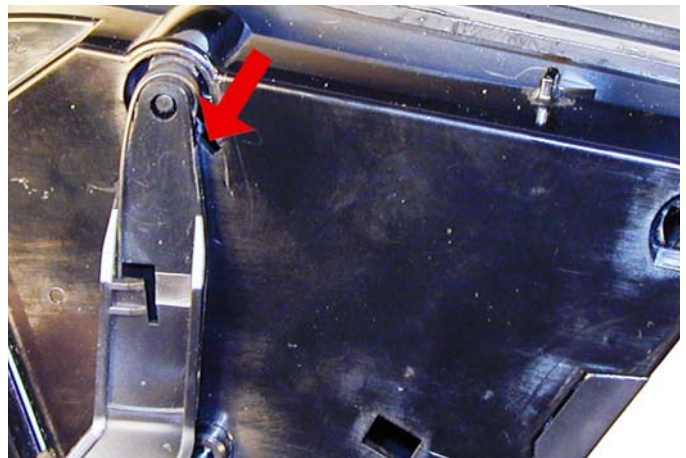

Figure 73
66) Install the drum cover arms. Place the arm into place, and rotate the tail of the springs so the fit into their respective slots. See **Figure 73**